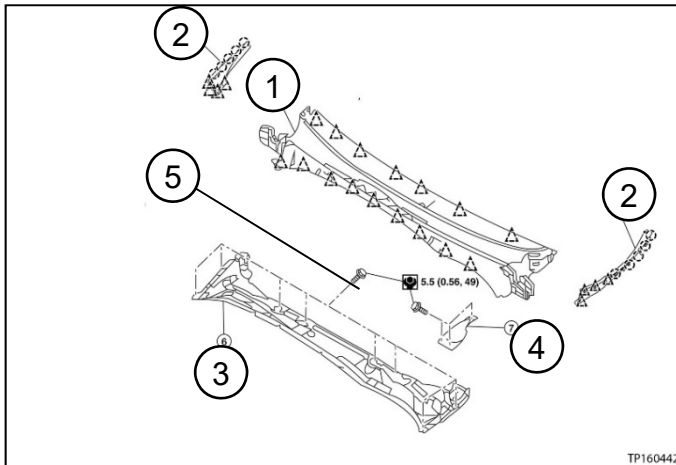
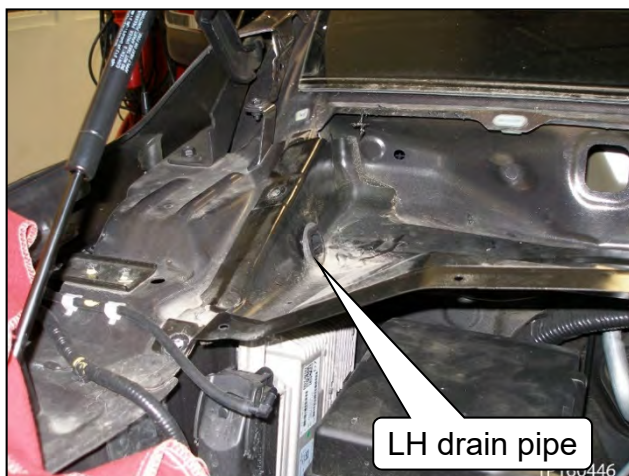
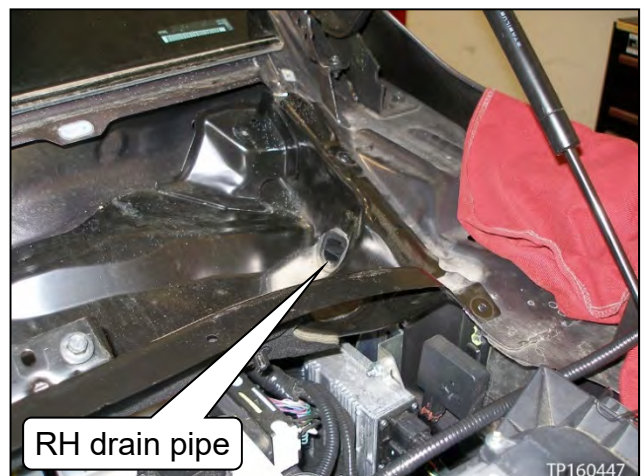

Figure 113
Figure 115
Figure 116
a. Install the cowl top extension with the eight (8) bolts, and then install both drain pipes (see Figure 113, # 3 & 5, and Figure 115 and Figure 116).
c. Install the cowl top extension bracket (see Figure 113, # 4).
d. Install the cowl top cover (see Figure 113, # 1).
NOTE: Install the cowl top side trim cover(s) separately as needed (see Figure 113, # 2).